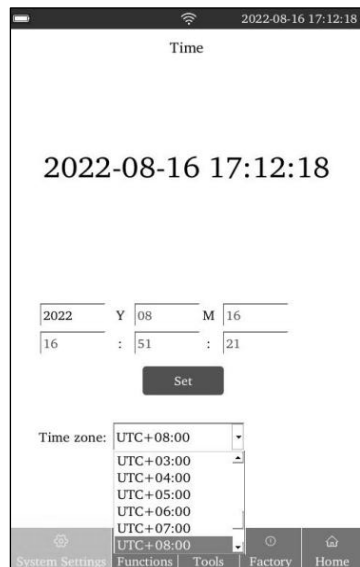

Fig 9
- 1) Tap "**Time**" to enter the year, month, day, hour, minute, second and tap "**Set**" to modify the system time. Tap "**Time zone**" to adjust the UTC time. (Ref Fig 9)